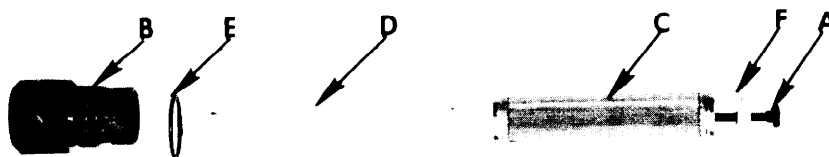

Figure 5 - Adhesive Filter Assembly
8. Using Figure 5 as a guide, remove screw (A) from filter bung (B) and disassemble filter.
11. Slide screen (C) over core (D), as shown in Figure 5.